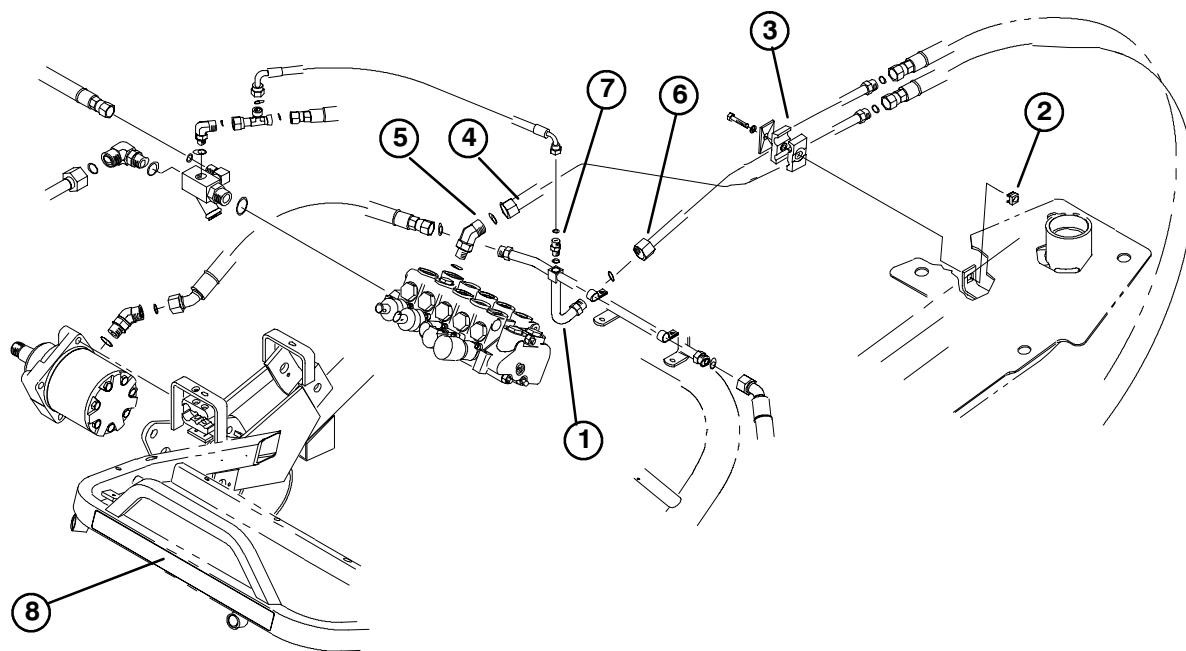

Figure 5
14. Apply decal to front of traction unit frame as shown in Figure 5.
11. Install retainer nut into square hole in right side of frame. Clips to be facing outward (Fig. 5).
12. Loosely install top rear hardline and bottom rear hardline to frame using tube clamps and hardware (Fig. 5).
13. Fasten top rear hardline to traction hardline elbow (Fig. 5).
14. Fasten lower rear hardline to 45 degree fitting on control valve (Fig. 5).
15. Install check adapter to center port of traction hardline (Fig. 5).